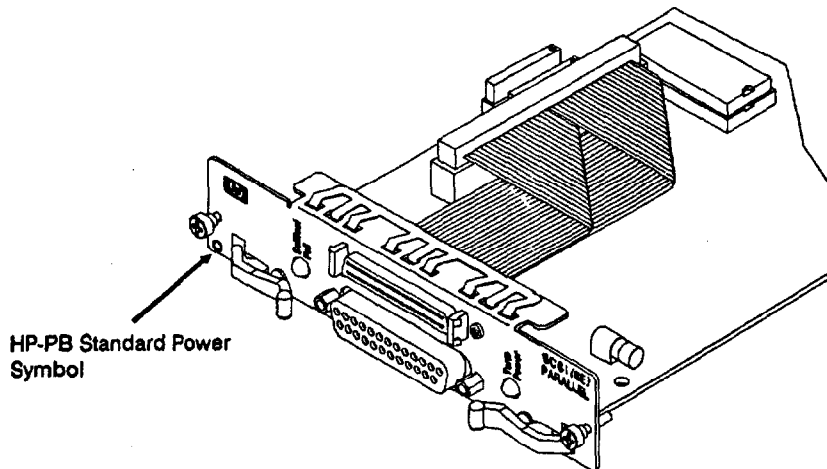

Figure 1-6. Standard Power Symbol Location
- The SCSI/parallel adapter complies with HP-PB specifications for a standard-power card. This is indicated on the card by an open circle symbol labeled on the card's faceplate (as illustrated in figure 1-6).